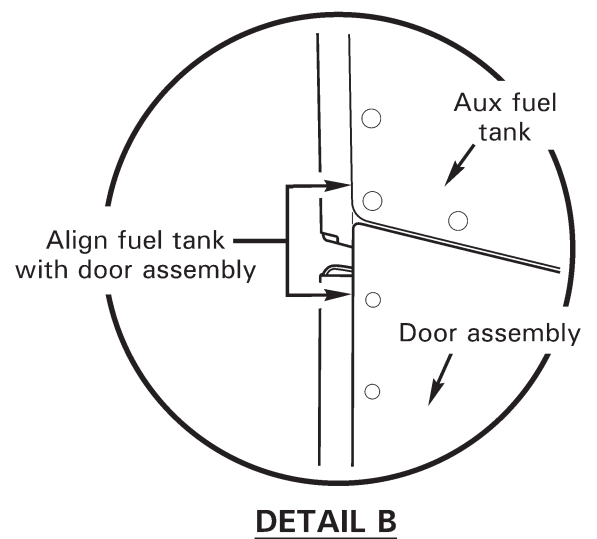

**FIGURE 5**
54. Refer to Figure 5, Detail D. Install new D255-1 connector, new NAS1149F0632P washer, and new AN924-3D nut in D255-2 angle and special torque nut to 100 in.-lb. Apply B270-6 sealant sparingly to A761-1 drain valve tapered threads (do not apply sealant to first thread) and connect valve to connector. Hold connector, special torque valve to 60 in.-lb, and torque stripe per MM Figure 2-1. Install A729-7 tube, wrap two turns 0.032-inch diameter lockwire around tube and valve, and safety tube tight to valve. Install D663-1 clamp.